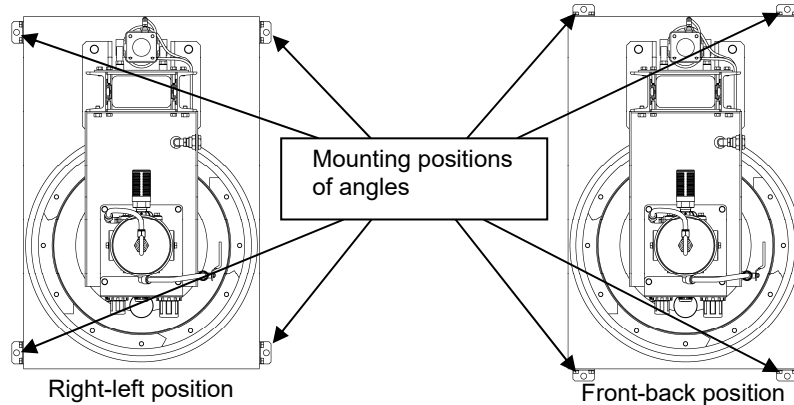

Fig. 3 Mounting positions of angles
- 2) Attach the angles to the lift base with the furnished bolts and washers. You can use either one of the two mounting positions shown below. Be sure to put one angle in each corner. (Fig. 3)